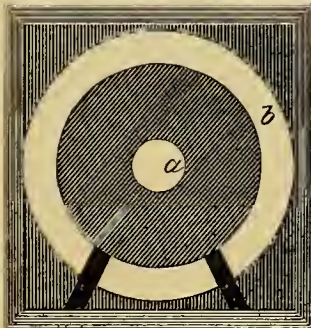

FIG. 65.—PASTEBORD SCREEN FOR TESTING BY MEASUREMENT OF ABERRATION.
For measurements of this kind it is necessary to mount the block of the screen for cutting off the rays at the centre of curvature, upon a slide graduated to the one-hundredth of an inch. Then placing a cardboard disc, as in Fig. 65, before the speculum, find first the exact focus of the central portion (A), and mark the position occupied by the screen, that is the focus of the centre rays. The screen should then be adjusted until the light vanishes equally from the exposed ring at the edge (B) that will indicate the focus of the outer rays. The distance between the two positions of the shutter will be the amount of aberration possessed by the speculum that is being tested, and in our case that distance should be just over one-fiftieth of an inch.